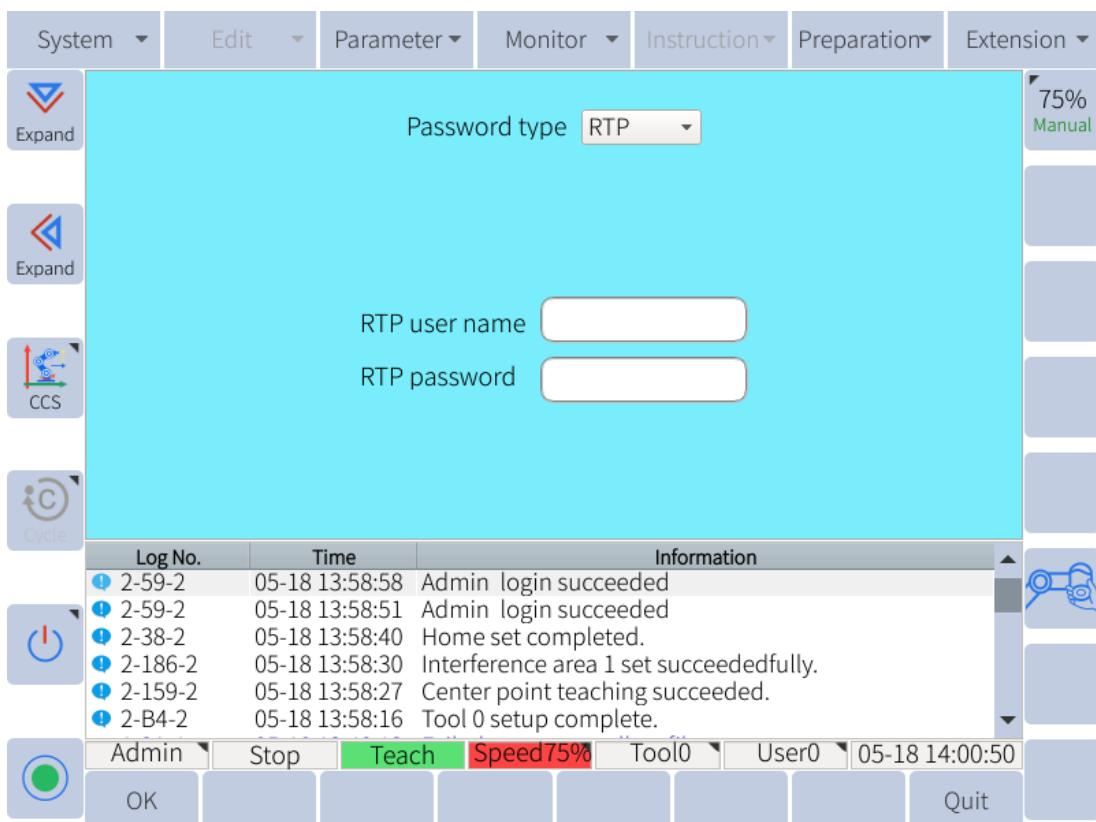

Figure 11-3 : set username and password
3. Enter the username and password, which is used to log in the website, as shown in **Figure 11-3**.